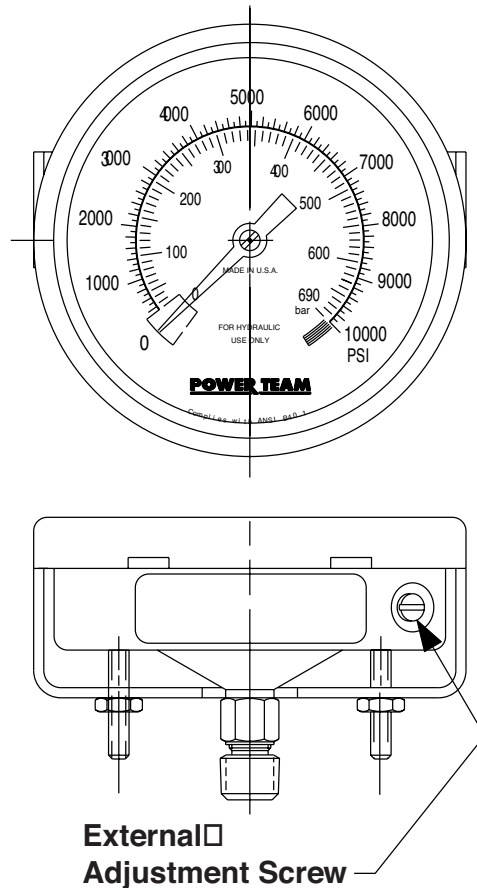

FIGURE 4
A. Locate the adjustment screw on the gauge (see Figure 4) and make adjustments as needed with a screwdriver. The adjustment screw is located on the lower right back rim of the gauge. You must reach under the portion of the shroud that the gauge is mounted in.